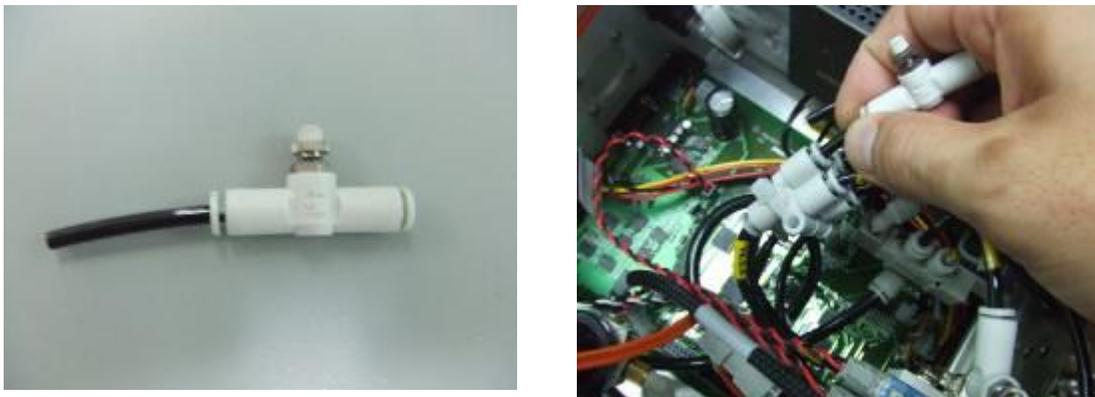

Figure 26: *Plugging in the inline flow controller B sub-assembly from the permanent fix kit*
23. Retrieve the inline flow controller *B* sub-assembly from the permanent fix kit as shown in Figure 26. Then, plug this whole inline flow controller *B* sub-assembly into the empty port of the Y-Joint 4 to 4 which is left over after the previous unplugging of the M4 tubing end with the label of Y4.3.B in Step 22.